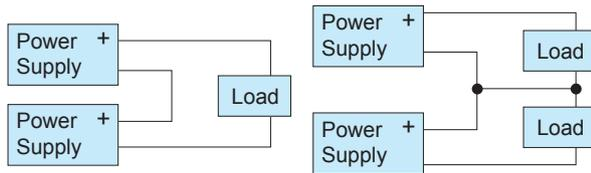

Fig.3.1 Examples of series operation
- Parallel operation is shown in Fig.3.1.